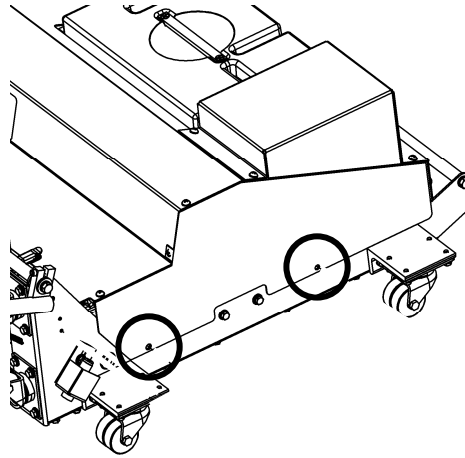

Figure 3-8
1. Remove the two screws, shown in Figure 3-8, from both sides of the hood and lift the hood from the frame. Set aside the screws.